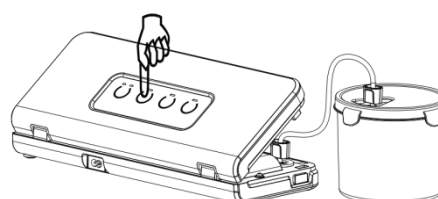

Figure 9
4. Press the MANU Button to start vacuuming. The appliance will stop automatically when enough vacuum pressure is achieved (as shown in Figure 9);